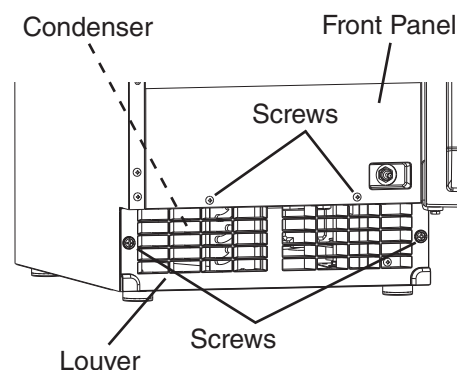

Fig. 48
2. Remove the 2 screws securing the front panel, then remove the panel. See Fig. 48.